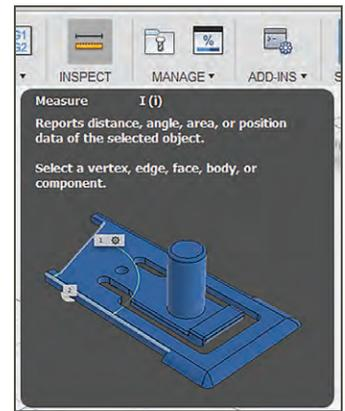

FIGURE 13-14: The Inspect menu lets you measure the workpiece.
- ▶ **Inspect:** This menu lets you select an object and measure distance, angle, area and position. You can select by vertex, edge, face, body, or component (Figure 13-14).